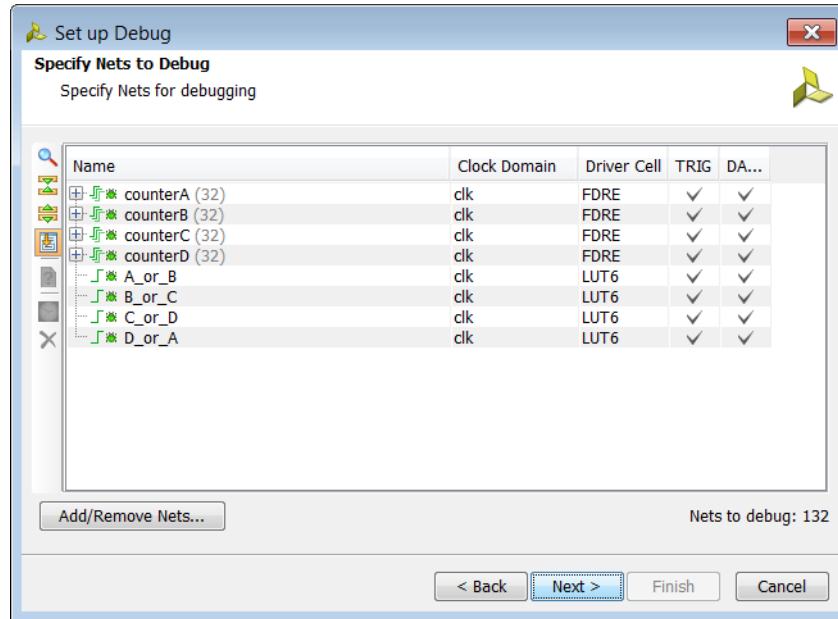

Figure 4-2: Set Up Debug Wizard
3. Click **Next** to get to the **Specify Nets to Debug** panel (see Figure 4-2).